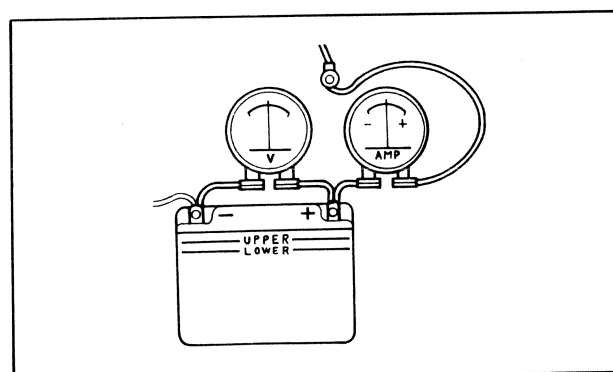

Fig. 6-2 Battery charging test
3. Disconnect the battery cable from the + terminal of the battery, and connect it to the + side of ammeter. Then, connect the - side of the ammeter to the + terminal of battery. Next, connect the - side of voltmeter to the + terminal of battery and consequently + side to the - terminal as shown in Fig. 6-2.